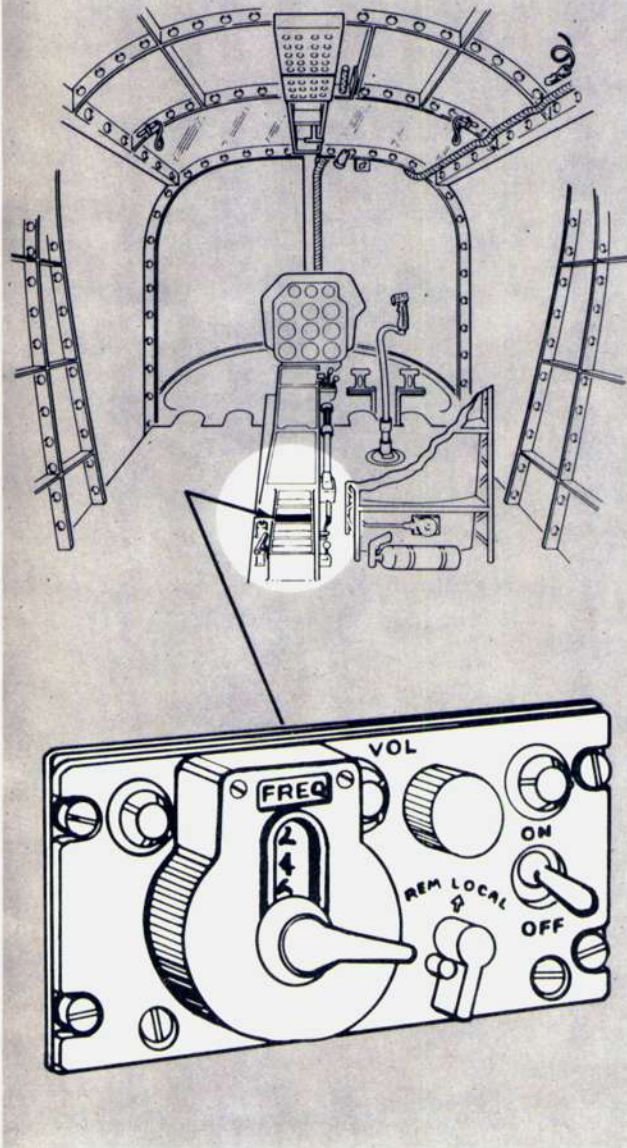

Figure 4-13
**Description.** The AN/ARC-44 FM equipment provides reception and transmission of frequency-modulated voice signals within the frequency range of 24.0 to 51.9 megacycles. The control panel (figure 4-13) is located on the console to the left of the pilot's seat. When the equipment is energized, electrical power is received from the 28-volt d-c supply through the radio circuit breaker on the circuit breaker panel (figure 1-22). A REM-LOCAL switch ordinarily permits choice of remote or local operation. In this installation, however, only local operation is used. A frequency (FREQ) selector knob permits adjustment for the desired operating frequency.